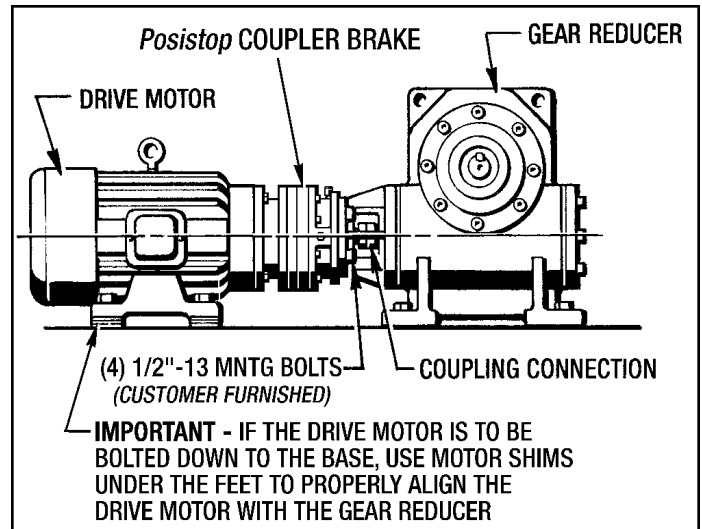

Figure 9.15 - Motor and Gear Reducer Alignment
(See *Figure 9.15*)
1. Attach the Drive Motor and Brake Assembly to the Gear Box or Driven Machinery with the (4) 1/2"-13 Mounting Bolts (Customer Furnished). **Torque to 60 Lb. Ft.** Connect the coupling as per manufacturer's specifications.
2. If the Drive Motor is to be bolted down to the base, use motor shims under the feet to properly align the drive motor with the gear reducer as shown in *Figure 9.15*. **This is very important so the Coupler Brake will not be pulled down or pushed up.**